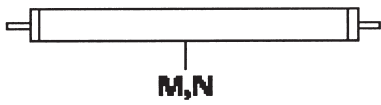

Figure 5B
24. Weld BB flat against other end of M (see Fig. 5B)
26. Weld DD flat against other end of N. (see Fig. 5B)